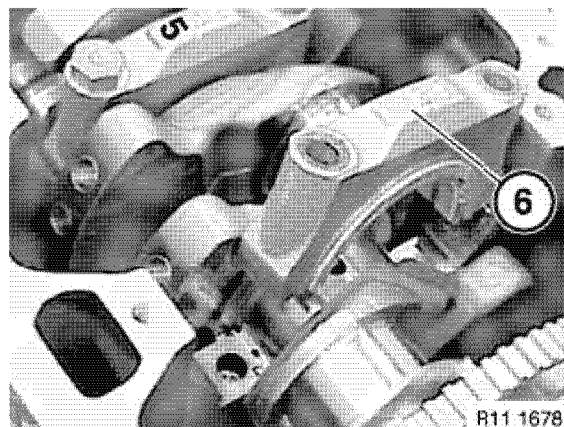

Figure 5-108
- **6BY3 Engines:** Main bearing caps No. 6 and 7 are not marked, but No. 6 is the location of the thrust bearing (**Figure 5-108**).